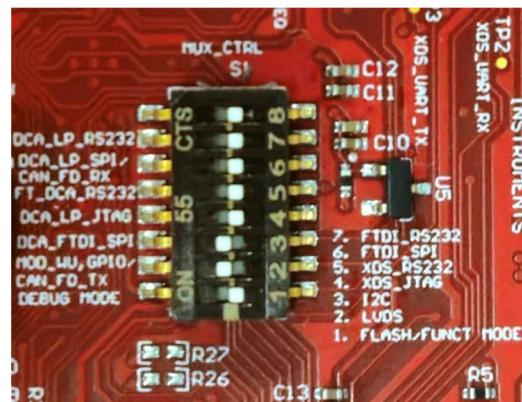

Figure 2-3. S1 - Switch settings for TI demo
2. Make sure of the switch settings shown in Figure 2-3